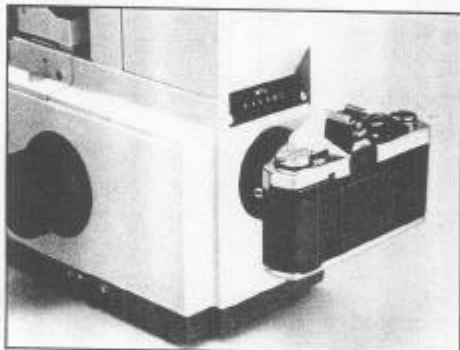

Fig. 38
1) A 35 mm camera back can be mounted in the same way a camera lens is bayonet-mounted on a camera. (Fig. 38)